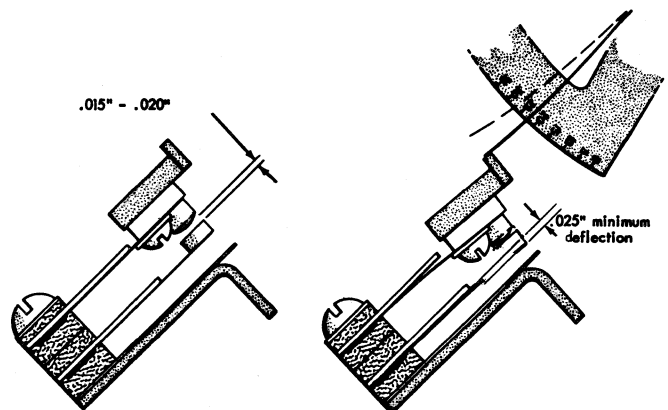

Figure 99. Detail Station Card Lever Contact
1. With card lever assembly removed from machine and stationary strap straight, contact should have .015-inch to .020-inch air gap (Figure 99). Make adjustment with